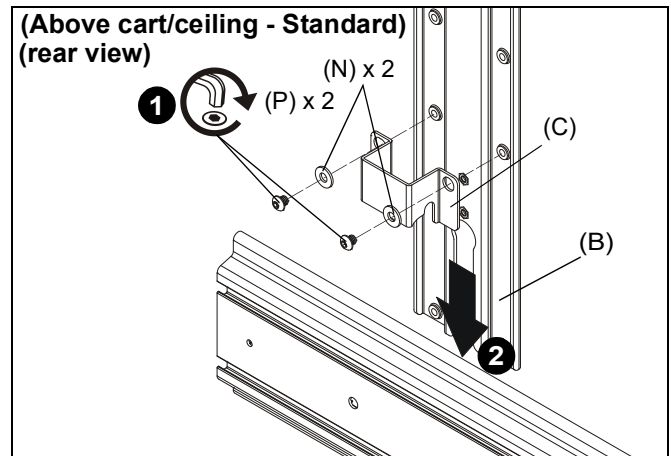

Figure 17
- Use two 1/4-20 x 1/4" button head cap screws (P) and two large washers (N) to secure shelf bracket (C) to main bracket (B). (See Figure 17)
- Slide main bracket (B) onto front of cart/ceiling mount head assembly until shelf bracket (C) rests on top of head assembly. (See Figure 17)